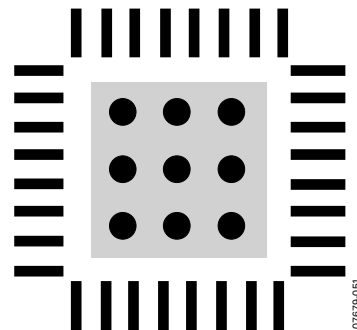

Figure 65. Exposed Pad Layout Example, Top View
- Vias should be placed to connect all layers of copper, allowing for efficient heat and energy conductivity. For an example, see Figure 65, which has nine vias arranged in a 3 inch $\times$ 3 inch grid in the pad area.